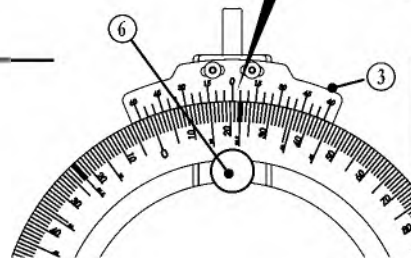

FIGURE C-1
- Make sure the ③ Vernier Scale is calibrated (See Part II. Calibration).
- Loosen the ⑥ Protractor Lock Knob.
- To dial in fractions of any degree, continue moving the Protractor Scale slightly past the whole-degree until your desired fractional-degree aligns to the nearest graduation. The example in **FIGURE C** shows a setting of 20°-30", or 20-1/2°. Note that the "0" on the vernier scale is centered between 20° and 21°, and the 30" aligns with the nearest whole graduation. A handy conversion chart is included as **FIGURE C-1**.